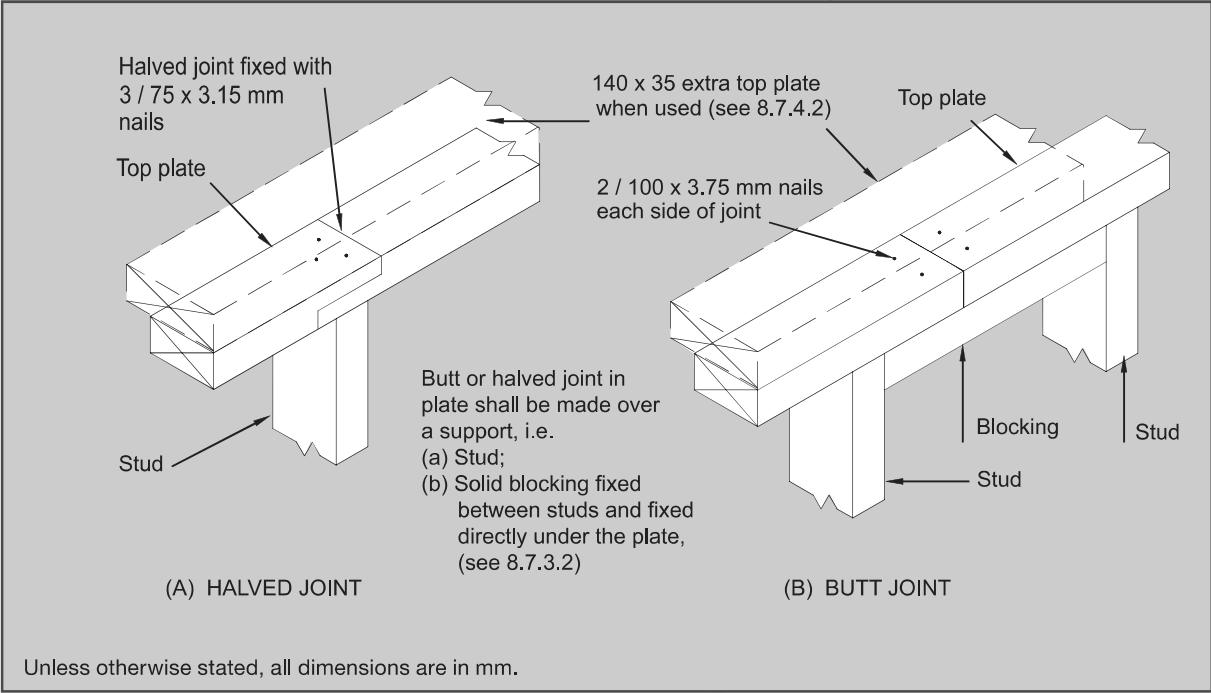

Figure 8.14 – Connecting top plates – Walls not containing bracing (see 8.7.3.2)
Joints in the *top plate* of a wall that does not contain any *wall bracing elements* (either in line or at *wall intersections*), shall be halved and nailed at the joints, see figure 8.14 (A), or be butted over *blocking* and nailed, see figure 8.14 (B), or be provided with an alternative fixing, having a *capacity* in tension or compression of 3 kN.